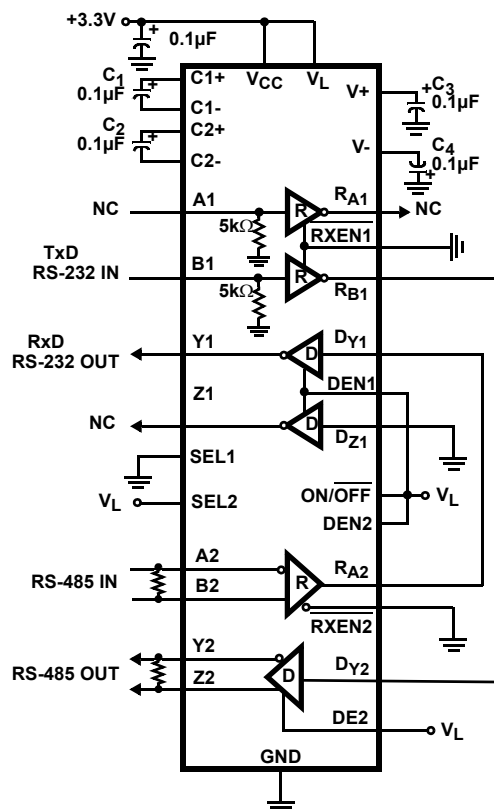

FIGURE 1. SINGLE IC RS-232 TO RS-485 CONVERTER
This two port dual protocol IC is ideal for implementing a two wire (RxD and TxD) RS-232 to RS-485 converter, as shown in Figure 1. To evaluate this circuit using the evaluation board (starting with the default configuration): install the "B1" (4) jumper to connect the 50 Ω termination on the input; remove the "DY1 (DZ/SLEW)" (23) and "DY2 (NC)" (20) jumpers; connect a wire from the "RB1 (RA)" test point to the DY2 test point ("TP19"); connect a wire from the "RA2 (NC)" test point to the DY1 test point ("TP20"); connect the port 2 "external loopback" jumpers (9 and 10), and move the "SPA" (16) and "SPB" (17) jumpers to the "LOW" positions to set the RS-485 Tx speed to the medium data rate option. Note that the RS-232 Tx output (Y1) is unloaded in this configuration, while the RS-485 Tx output drives a double terminated load (R_{13} and R_{14}). The RS-232 output can be resistively loaded by looping it back to the "A1" input via the "A1/Y1_LB" (5) jumper, and can be capacitively loaded by soldering the desired load value in position C4. To add a differential capacitive load to the RS-485 driver, simply solder the capacitor on top of termination resistor R_{13} , or